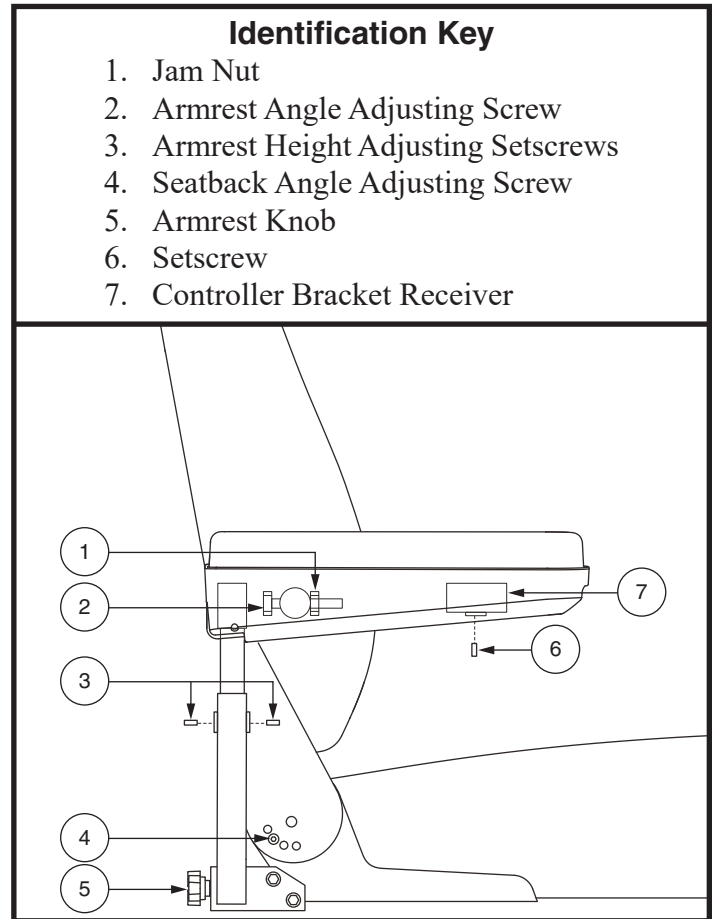

Figure 9. Armrest and Seatback Adjustments
**NOTE:** The most common configuration of the seat adjustment hardware is shown in figure 9. Your product may be equipped with a different configuration. All configurations operate in a similar manner.
1. Remove the adjusting screws from each seat hinge. See figure 9.
1. Locate the adjustment hardware on each side of the armrest receiver bracket. See figure 9.
2. Loosen the jam nut. See figure 9.
1. Loosen the setscrews on the armrest. **See figure 9.**
3. Loosen the setscrew on the controller bracket. **See figure 9.**
5. Loosen the setscrew on the underside of each armrest. **See figure 9.**